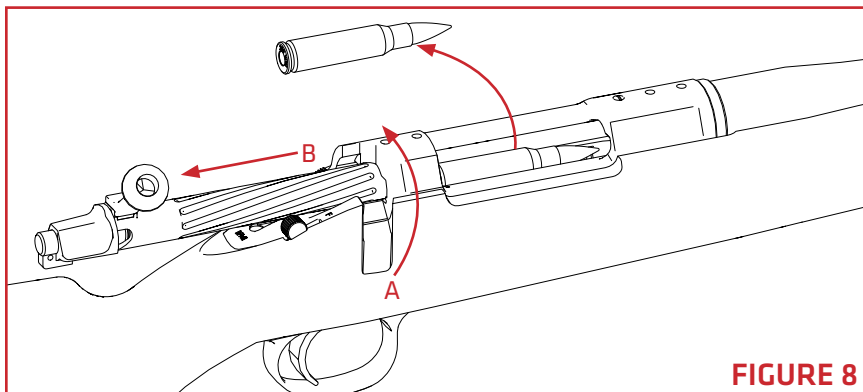

FIGURE 8
1. With the safety lever in "S" (safe) position, lift (**FIGURE 8-A**) and pull (**FIGURE 8-B**) the bolt to extract a chambered cartridge.